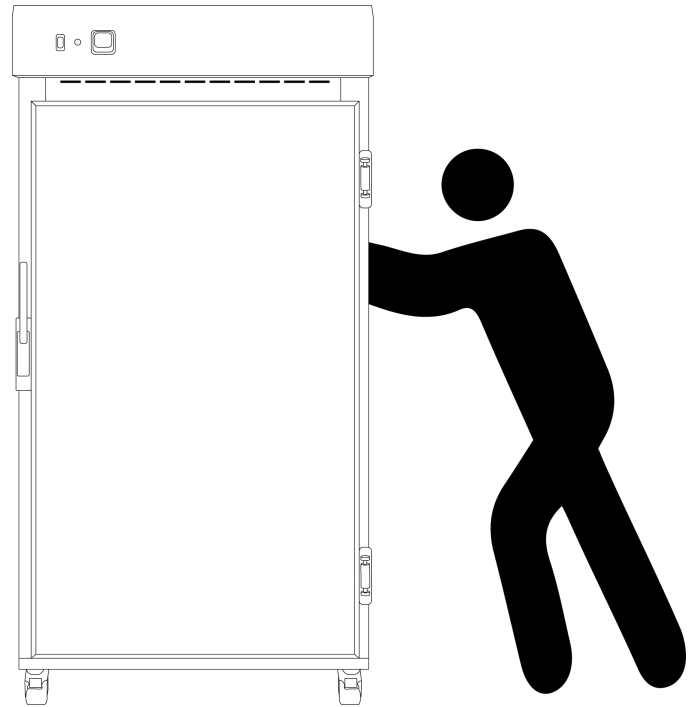

Fig 3 . Safe moving of cabinet.
**NOTE:** The ovens are 'Top Heavy'. Do not move the cabinet too quickly. (**Fig 3 & 4**)